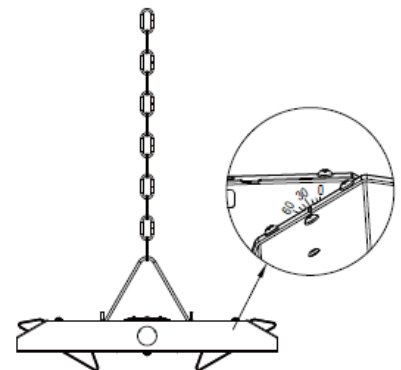

Figure 2
- Step 5. The panels can be rotated, and the maximum angle of outward rotation is 135-degrees. (Figure 2)